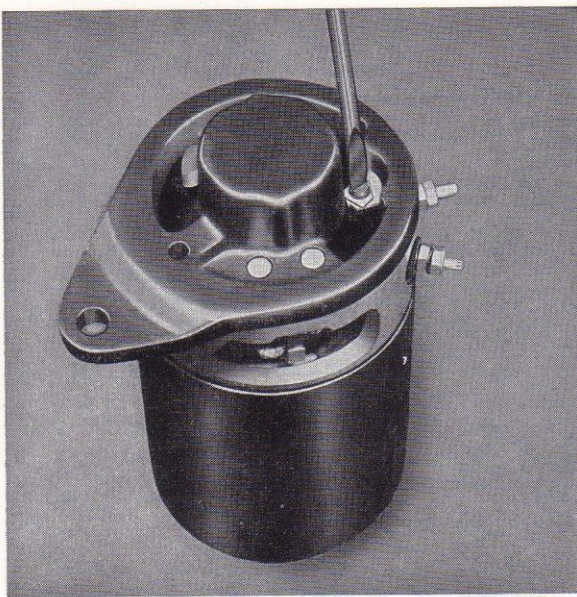

Fig. 6. Removing the connecting bar
3. Remove the screws holding together the dynamo housing and end shield after having first disconnected the connecting bar as shown in Fig. 6.
8. Connect the connecting bar for the main current to the positive brush, see Fig. 6.